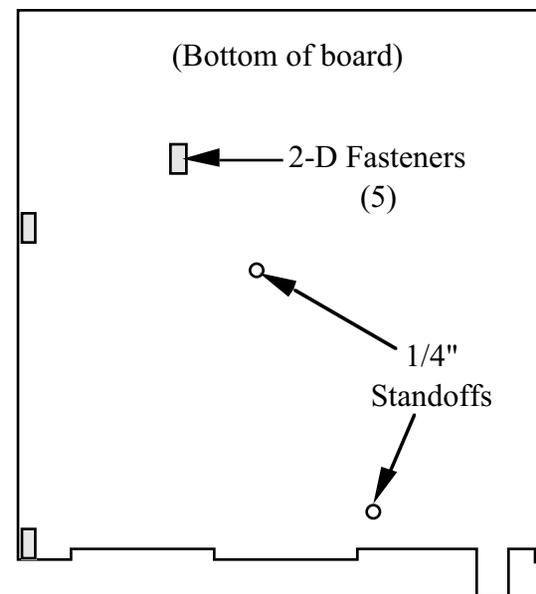

Figure 6-3
□ Install 2-D fasteners at 5 locations on the bottom of the board as shown in Figure 6-3. Secure each fastener from the *top* side of the board using two chassis screws (black, 3/16" [4.7 mm]) and two #4 lock washers. The washers go on the top side of the board.
Install two 3/16" (4.8 mm) diameter by 1/4" (6.4 mm) long round standoffs on the bottom of the board at the locations identified in Figure 6-3. Secure these standoffs from the top side with chassis screws and #4 lock washers. *Do not put lock washers between the bottom of the board and the standoffs.*